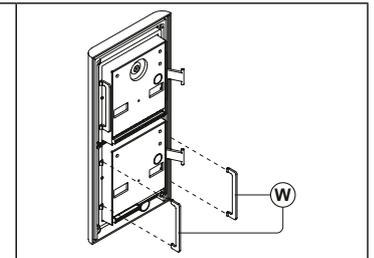

Fig. 4
Fit the anti-tampering locks (W) as shown in **Fig. 4**.
- Apply the **(Y)** silicon sealant on top of each module as shown in **Fig. 4**;